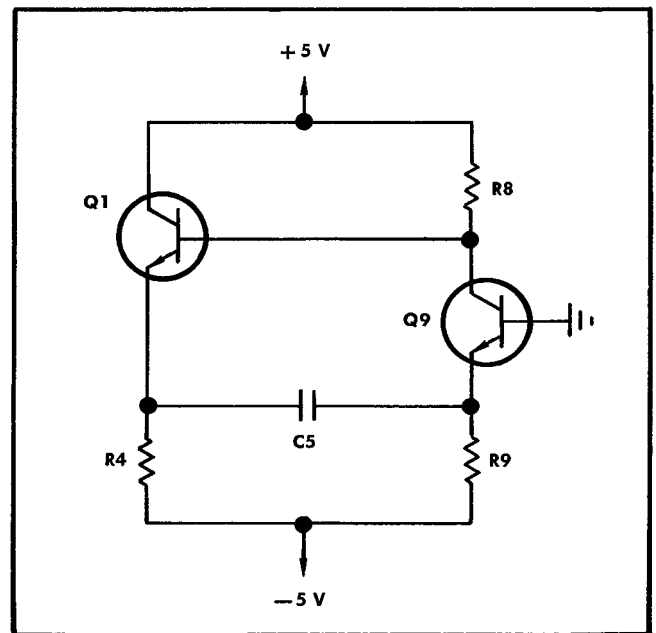

Fig. 3-2. Calibrator multivibrator, simplified.
**Calibrator.** The simplified calibrator multivibrator circuit is shown in Fig. 3-2. Its explanation begins with the assumption that Q1 is conducting and Q9 is cut off. Under this condition Q1 is saturated and its emitter is at approximately